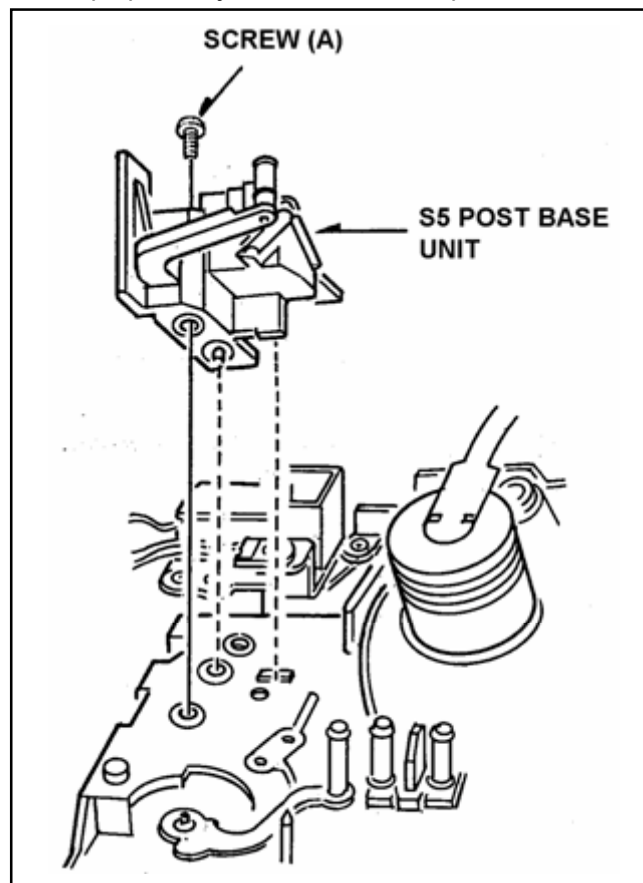

Figure 5-17-1
1. Unscrew the screw (A) and remove the S5 Post Base Unit as shown in Figure 5-17-1.
Note: Be careful the S5 Post Base Unit is installed to mech. chassis as shown in Figure 5-17-1.